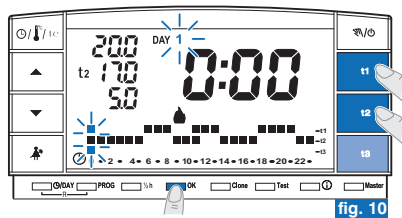

fig. 10
- Confirm the type of temperature you wish for each hour of the day (Comfort, Economy, Absence) by pressing keys **t1**, **t2** and **t3** (confirmation occurs every time the key is pressed, the digit moves to the subsequent time and the corresponding time is shown on the display) until the daily 24-hr chart pertaining to **Monday** is completed; the two digits will blink on the time **0:00** (e.g. fig. 10).